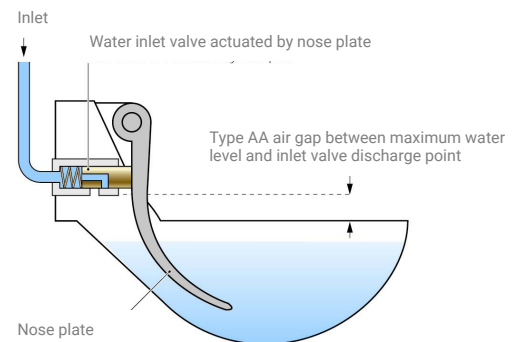
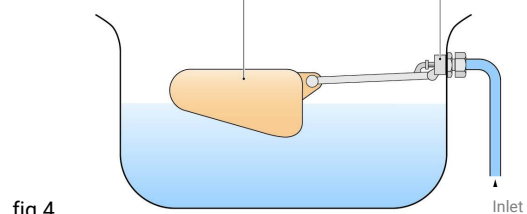

fig 3
fig 4
4. Where Animal drinking bowls are supplied with water the source of the supply will depend on the type of bowl being installed. Examples of the types of animal drinking bowls available are shown here. Fig 3 has an air gap incorporated within the inlet device and this type may be supplied with water directly from a supply pipe providing that the air gap is equivalent to a type AA air gap. Fig 4 shows a type of bowl where the inlet valve could become submerged and this type should only be supplied from a dedicated cistern.